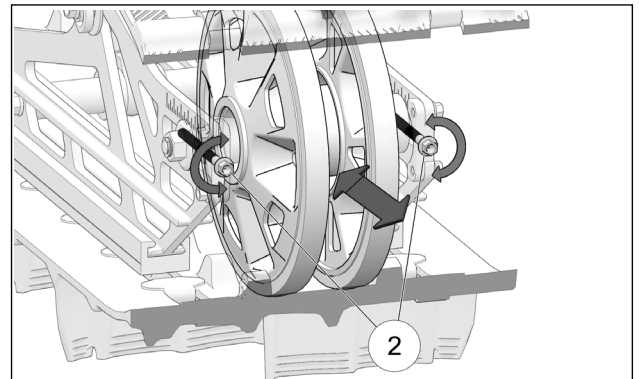

Figure 43
- Rotate the right and left rear wheel axle adjusting bolts (2) an equal number of turns, clockwise or counterclockwise, to set the Track to the recommended tension. See Figure 43.